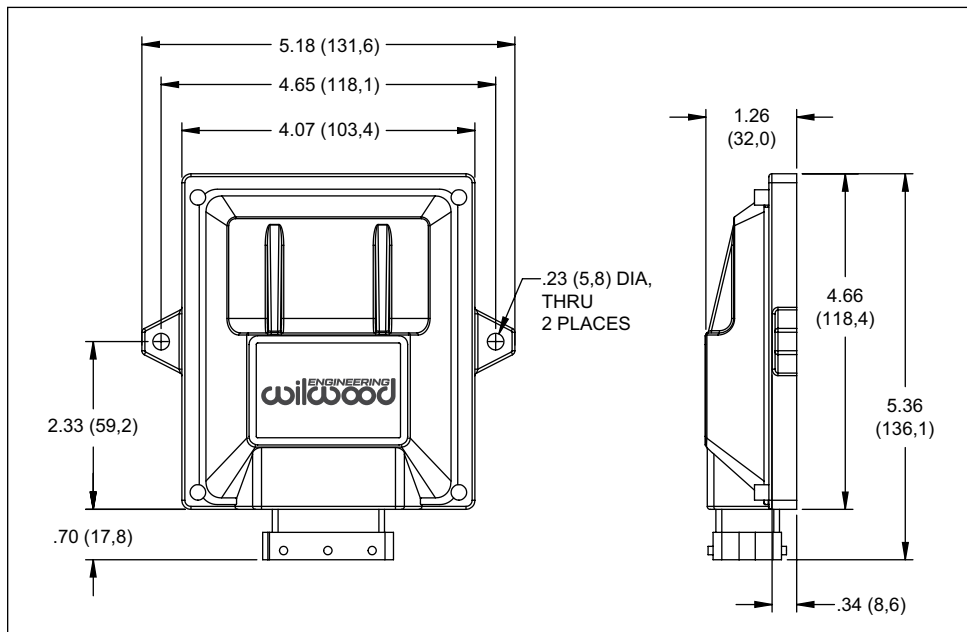

Figure 1. EPB Control Unit
- EPB CONTROL UNIT (ECU) - Securely mount the EPB control unit in a suitable location inside the vehicle, such as under the dash. Be sure to allow adequate access to the control unit cable connector. See Figure 1 for mounting dimensions.